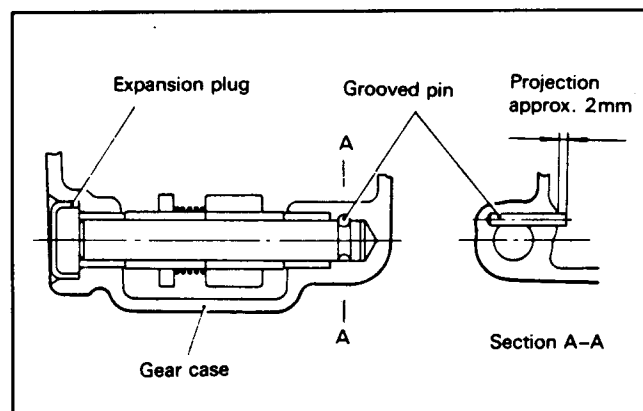

Figure 75
A. Remove the expansion plug (Fig 75). Be careful to not scratch the gear case.